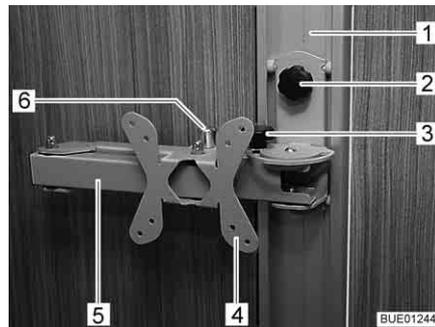

Fig. 53 Rail-mounted holder
- Undo the tommy screw (Fig. 53,2) and adjust the holder (Fig. 53,4) in the rail (Fig. 53,1) until it is at the desired height.
- Undo the tommy screw (Fig. 53,3).
- Pull the release knob (Fig. 53,6). The jointed arm (Fig. 53,5) is unlocked.
- Re-tighten the tommy screw (Fig. 53,3).
- Swing the flat screen back into its original position until you hear the jointed arm (Fig. 53,5) lock into position.
- Undo the tommy screw (Fig. 53,2), adjust the holder (Fig. 53,4) to the desired height and re-tighten the tommy screw.